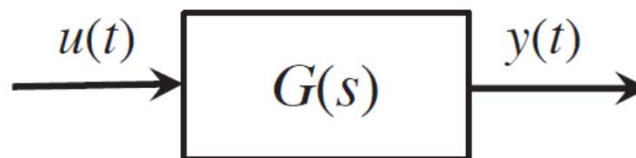

Figure 1: Open loop system,  $G(s)$
- (a) Suppose that the input is a sinusoidal signal  $u(t) = \sin 3t$  (see Figure 1). Find the output of the system. Identify the steady-state response. Show that the amplitude ratio and phase shift of the steady-state response are equal to values given by  $|G(j\omega)|$  and  $\angle G(j\omega)$  where  $\omega$  is frequency of the sinusoidal input.